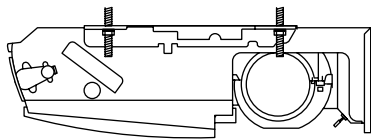

Fig. 3-47
c) Tighten the 2 hexagonal nuts on each suspension bolt to suspend the indoor unit as shown in Fig. 3-47.